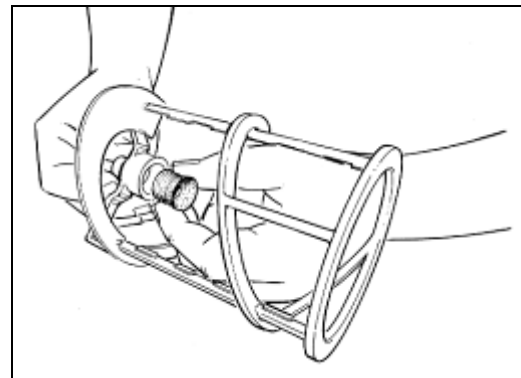

Fig. 13
- Insert the suction gasket into the auger by carefully inserting it into its seat (fig.13).